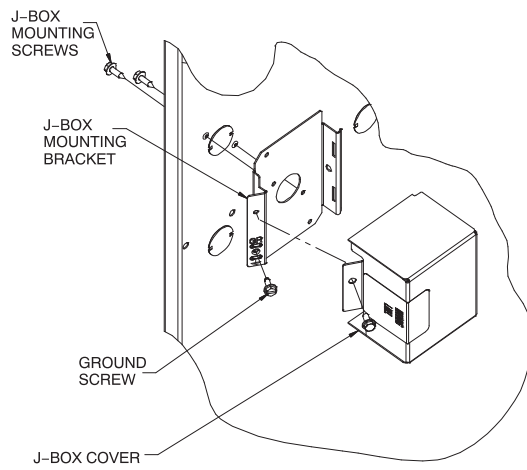

Fig. 30 - Installing J-Box (When Used)
The J-Box cover, mounting bracket and screws are shipped in the loose parts bag included with the furnace. The J-Box can be mounted on the left or right side of the casing, as viewed from the upflow position. See Fig. 30.
Align the J-box mounting bracket against the inside of the casing and secure the mounting bracket with the screws. See Fig. 30.
6. Connect field ground wire and factory ground wire to green ground screw on J-Box mounting bracket as shown in Fig. 30.
1. Install J-Box mounting bracket to inside of furnace casing. See Fig. 30.
5. Connect field ground wire and factory ground wire to green ground screw on J-Box mounting bracket as shown in Fig. 30.
7. Attach furnace J-Box cover to mounting bracket with screws supplied in loose parts bag. Do not pinch wires between cover and bracket. See Fig. 30.
4. Connect field ground wire and factory ground wire to green ground screw on J-Box mounting bracket as shown in Fig. 30.